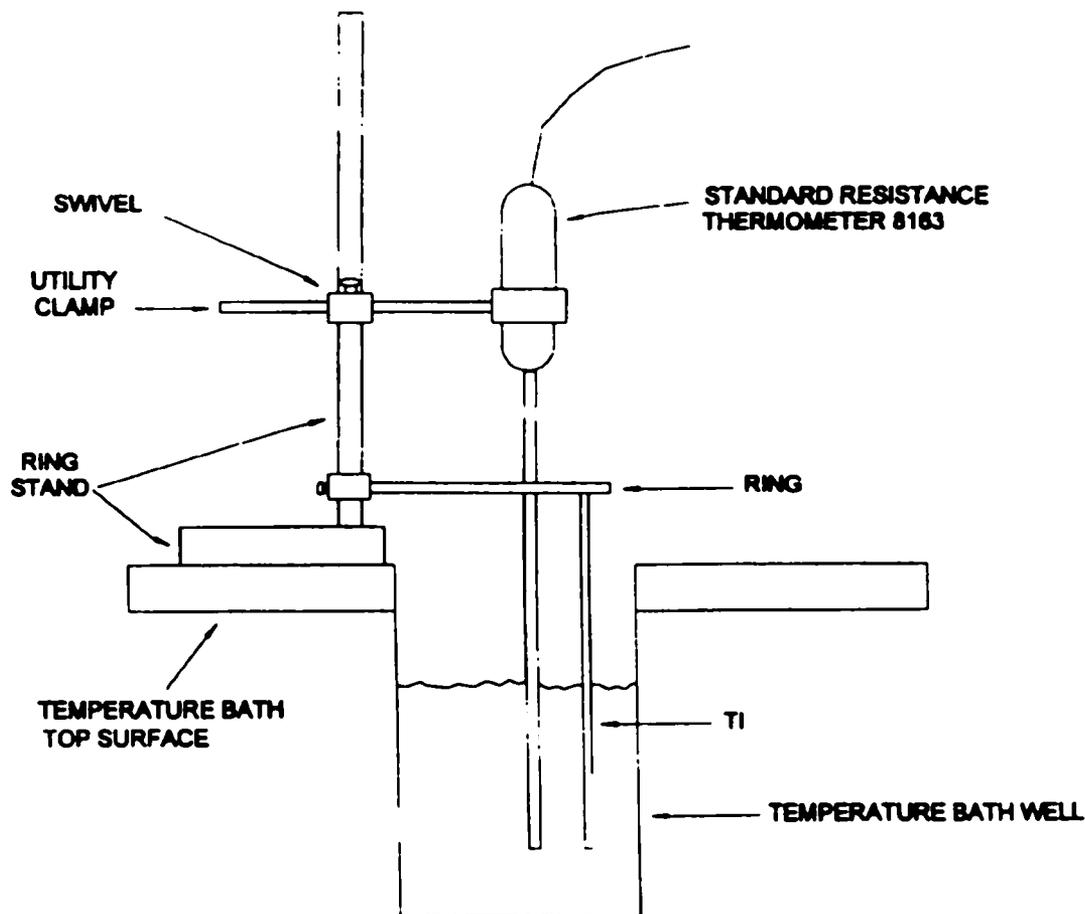

Figure 1.
4.2.1 Assemble the ring stand apparatus on top of Temperature Bath as shown in Figure 1, using extreme caution with the Standard Resistance Thermometer. Ensure that the thermometers and probes are submerged as deep as possible into the Bath.
- 4.3.1 Assemble the ring stand apparatus on top of Temperature Bath as shown in Figure 1, using extreme caution with the Standard Resistance Thermometer. Ensure that the thermometers and probes are submersed as deep as possible into the Bath.